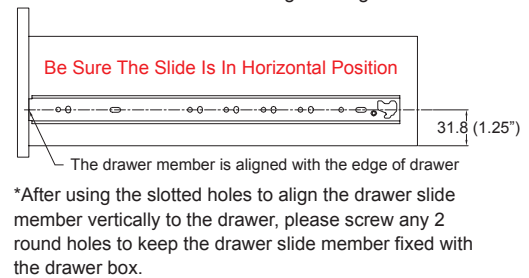

Fig. 4
4. Insert drawer members into cabinet members as indicated in Fig4. and push the drawer until it is closed.